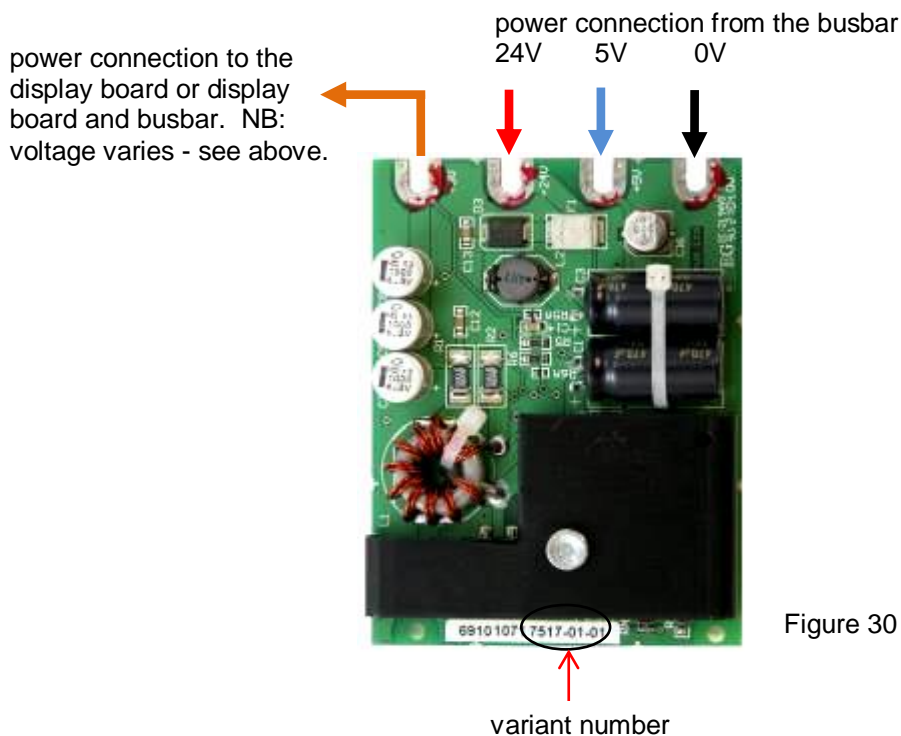

Figure 30
**Note:** the variant number can be found on the white label on either side of the PCB - see Figure 30 above as an example.